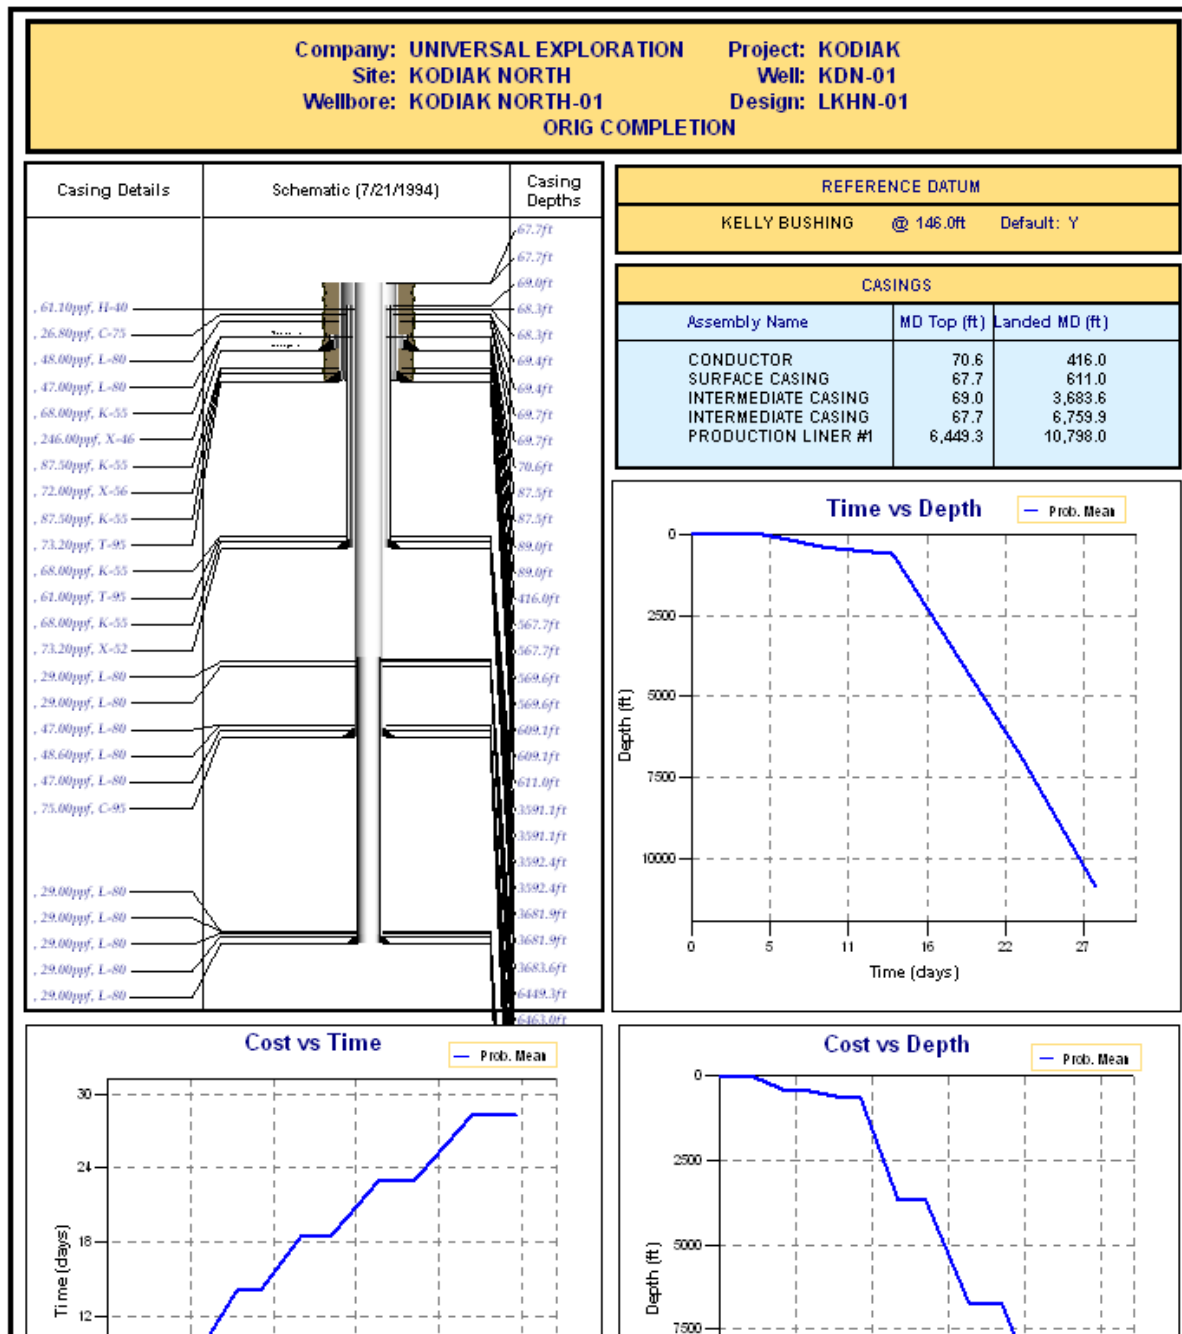

Figure 18: Wall Plot Composer
- WC_Deterministic.ppc (default file loaded when a new Wall Plot tab is created, seen in Figure 18 below)